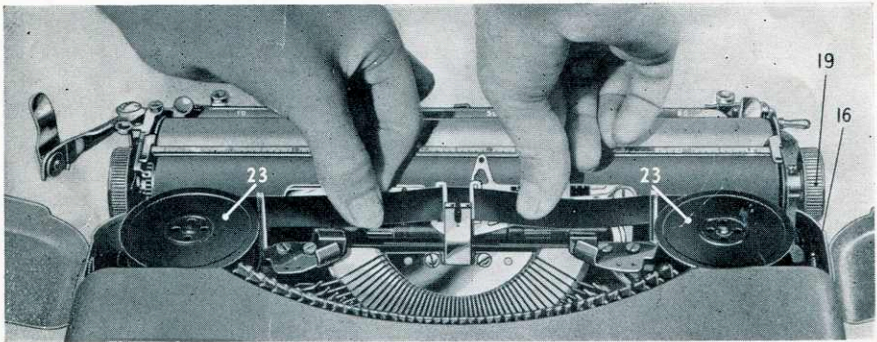

Fig. 4
10. **Carriage Release Lever.** This allows the carriage to move to the left. Operate it with the index finger of your right hand while pressing your thumb against the platen knob (19).
13. **Underlining or drawing lines.** Two holes are provided, one in the left hand Card Grip and one in the projection on the right hand Card Grip (13), to enable a pencil point to be placed through either of these for drawing horizontal or vertical lines by moving the carriage or rotating the platen.
16. **Manual Ribbon Reverse Lever.** The reversing of the ribbon from the full spool to the empty one is automatic. However, if it is desired to reverse the ribbon by hand, lift one of the spool covers (20) and pull forward or push back the Ribbon Hand Reverse Lever (16). (See Fig. 4).